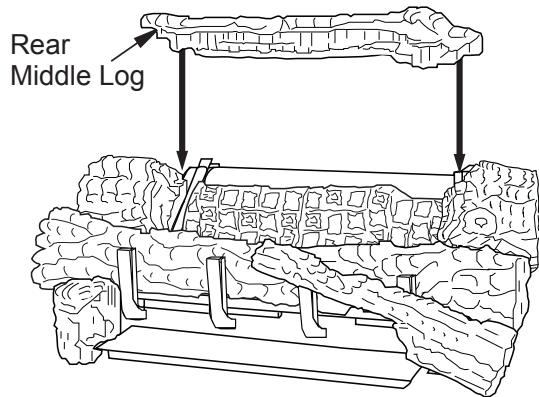

Figure 33 - Installing Rear Middle Log
7. The rear middle log should fit between the ramp log and the rear burner. The left and right middle logs have recessed areas for the rear middle log to sit into (see **Figure 33**). Be careful not to push the rear burner out of position while installing this log.